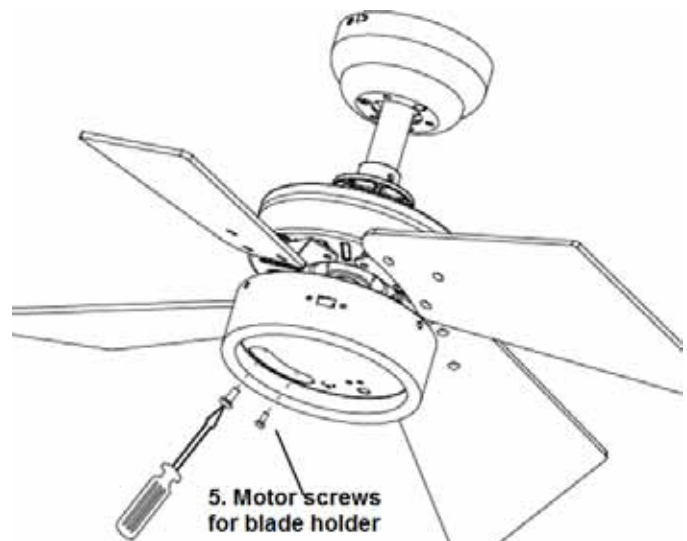

Fig. 6
2. Secure the blade holder on the motor by using twomotor screws (5) with washers to tighten it ensuring they are tightened simultaneously. (Fig.6). Once completed, repeat the process on remaining blades.